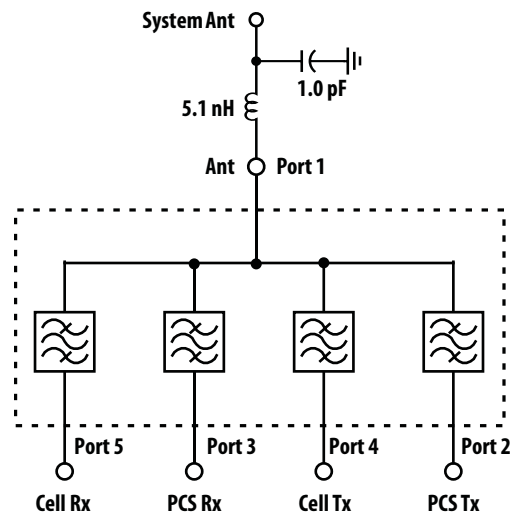

Figure 1. Typical Application.
4. Specifications are for circuit shown in Figure 1 and include effect of 5.1 nH inductor and 1.0 pF capacitor added to Port 1 (Ant) via simulation.
A two-element series-L, shunt-C network is used to match the impedance of the Ant port to 50 ohms as shown in Figure 1.
1. Performance shown includes effect of 5.1 nH inductor and 1.0 pF capacitor added to Port 1 (Ant) via simulation as shown in Figure 1.